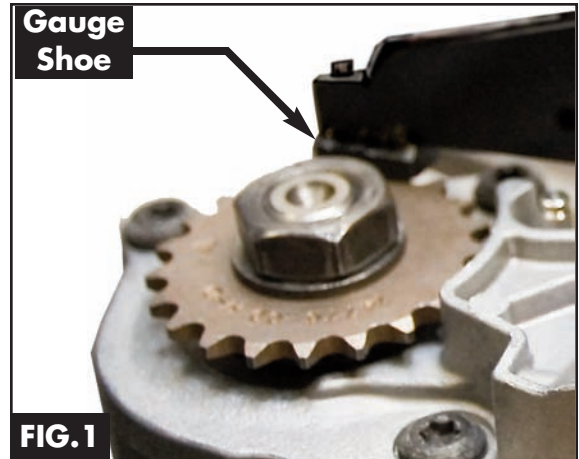

FIG. 1
- JIMS tool No. 952, may have been assembled at JIMS with either an early or late gauge (shoe), installed at the gauging end of tool. **See Fig 1.**
See Fig 1.